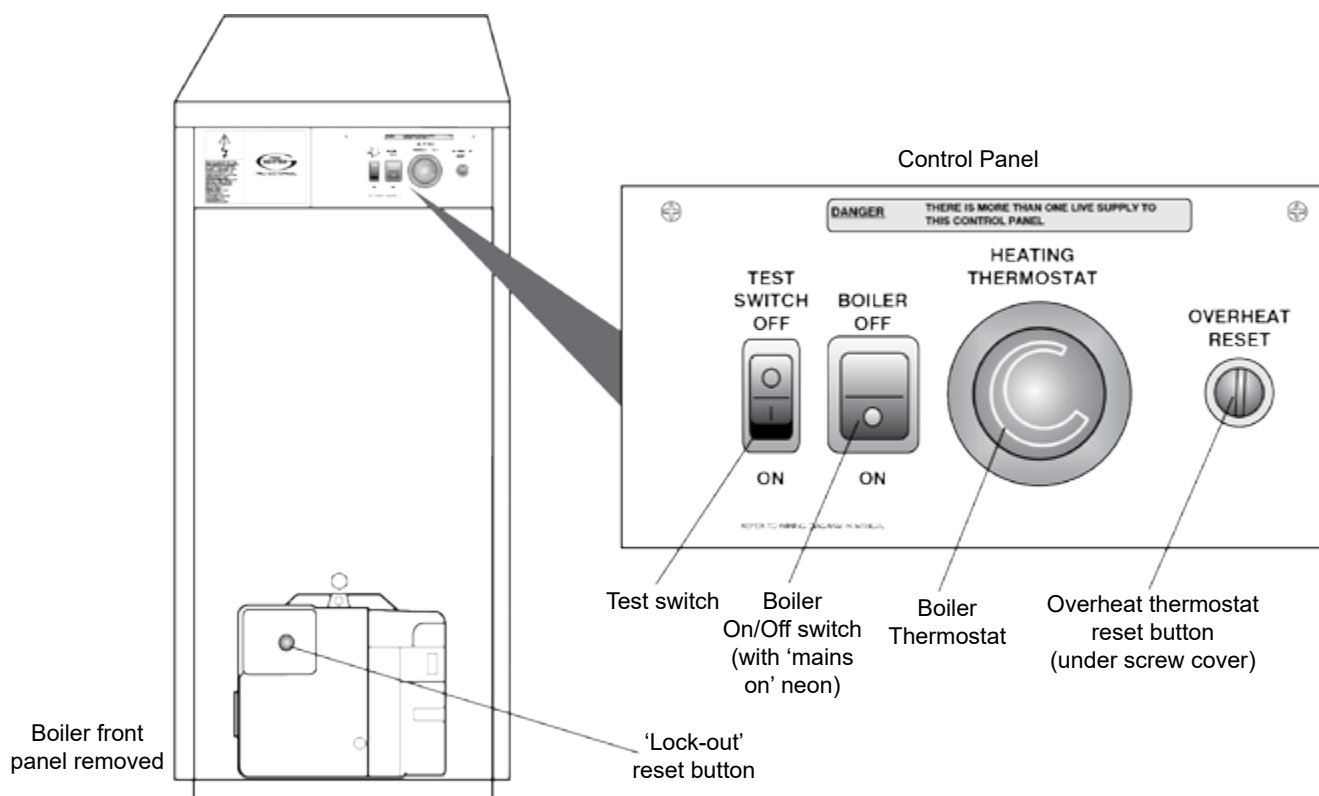

Figure 1-1: Vortex Eco External boiler control panel and reset button
Grant Vortex Eco External boilers have a 'mains on' neon, see Figure 1-1, which lights when the boiler is switched on.
To gain access to the boiler controls, remove the front casing door by turning the handle at the bottom anti-clockwise, pulling the door out at the bottom and withdrawing it from the casing to reveal the boiler controls as shown in Figure 1-1.
4. Check if the burner 'Lock-Out' reset button on the burner body (refer to Figure 1-1 for location) is lit.
Refer to Figure 1-1 for the location of the control panel within the boiler casing and for the details of the control panel.
To reset the overheat thermostat, unscrew the small plastic cap marked "overheat reset" (see Figure 1-1), press the button and replace the cap.
A test switch is fitted to the control panel (see Figure 1-1) to allow the Service Engineer to test-fire the boiler without requiring access to the inside of the property.